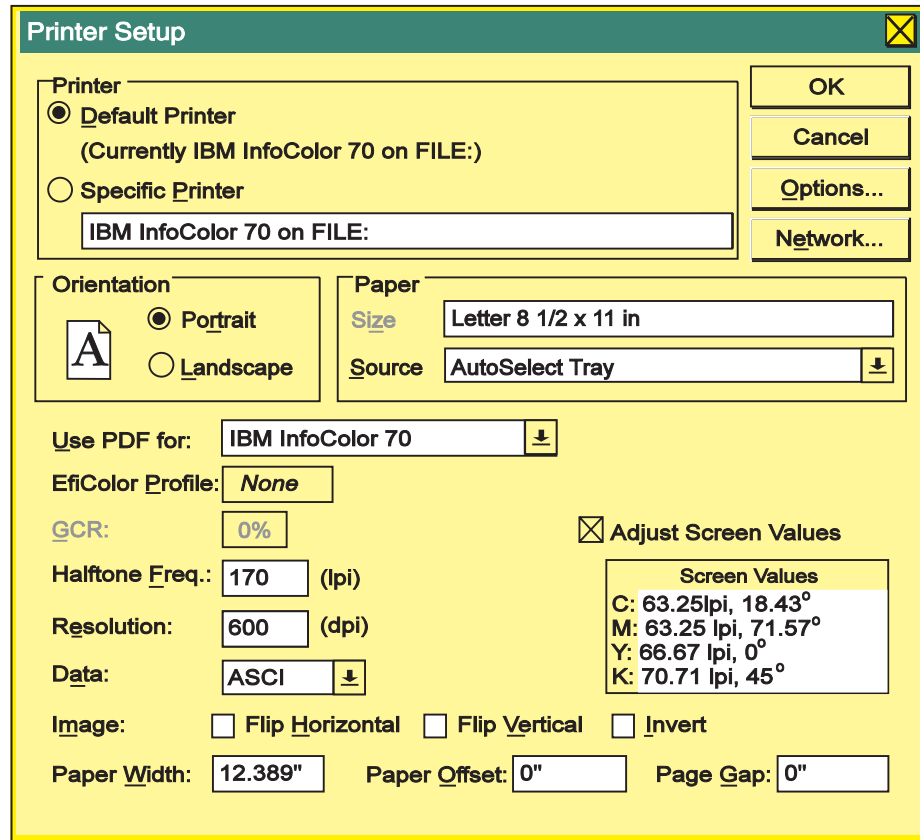

Figure 88. Sample Print Setup Window from QuarkXPress 3.32
- 1 Select the **Printer Setup** window, as shown in Figure 88.